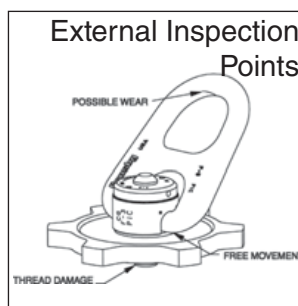

Figure 3
- Always inspect trench cover hoist ring parts before use (Figure 3). Be sure threads on shank and receiving hole are clean, not damaged or worn, and fit properly. A thread gauge is available from Crosby.